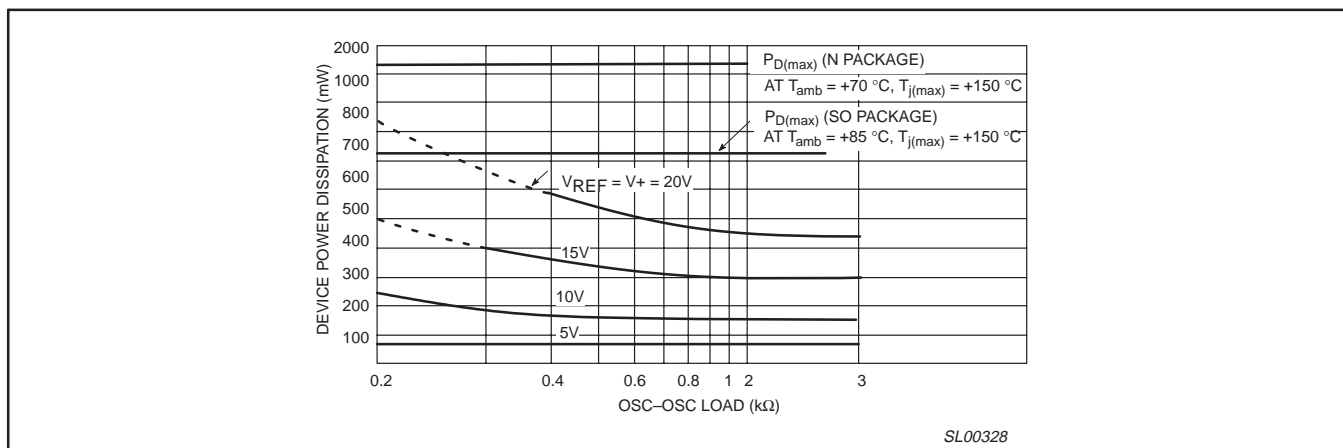

Figure 3. Device power dissipation versus OSC – \overline{OSC} Load at +25 °C
1. For derating, see typical power dissipation versus load curves (Figure 3).